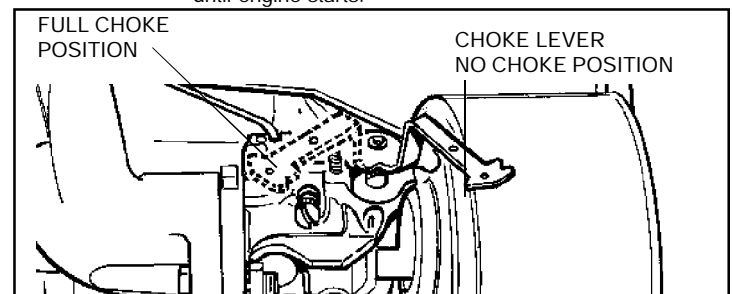

Figure 3
- Move choke lever (see Figure 3 or 4) to "FULL CHOKE POSITION".
- A. Move choke lever (see Figure 3 or 4) to "FULL CHOKE POSITION".